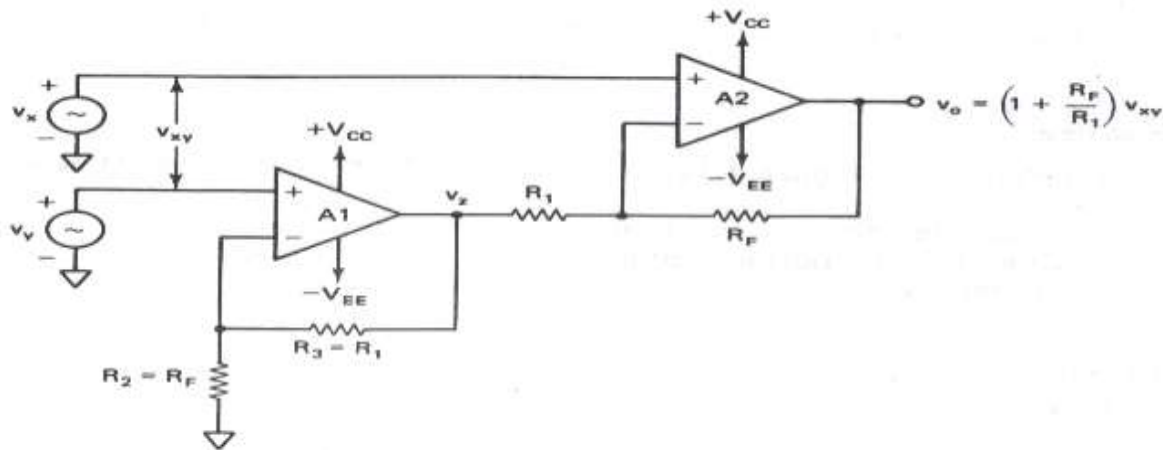

Figure 4-16 Differential amplifier with two op-amps.
Voltage gain: A close examination of the circuit of Figure 4-16 shows that it is composed of two stages: (1) the non-inverting amplifier, and (2) the differential amplifier with unequal gains. By finding the gain of these two stages, we can obtain the overall gain of the circuit as follows:
Input resistance: The input resistance R_{iF} of the differential amplifier is the resistance determined looking into either one of the two non-inverting input terminals with the other grounded (see Figure 4-16). Note, however, that the first stage (A_1) is a non-inverting amplifier; therefore [from Equation (4-8)], its input resistance is
However, since $R_1 = R_3$ and $R_F = R_2$, the $R_{iFy} \neq R_{iFx}$. This is the drawback of the differential amplifier of Figure 4-16. Nevertheless, with proper selection of components, both R_{iFy} and R_{iFx} can be made much larger than the source resistances so that the loading of the input sources does not occur.